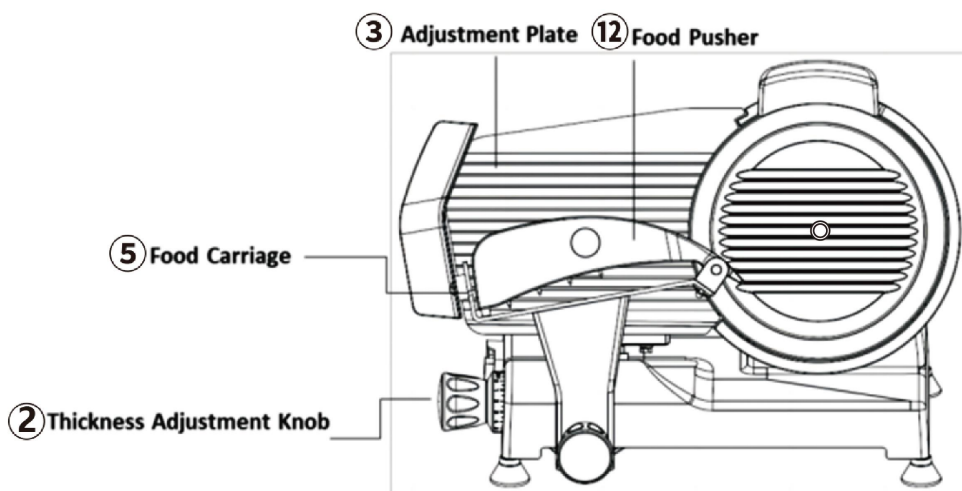

Fig. 1
2. Place food onto the Sliding Food Carriage (Part ⑤) between the Adjustment Plate (Part ③) and the Food Pusher (Part ⑫). To avoid injury, ALWAYS use the Food Pusher Handle (Part ⑪) to slice meat. (Refer to Fig. 1)
3. Turn the Thickness Adjustment Knob (Part ②) to set the Adjustment Plate (Part ③) for the desired cutting thickness. Turn clockwise for thinner cuts, counter-clockwise for thicker slicing. (Refer to Fig. 1)